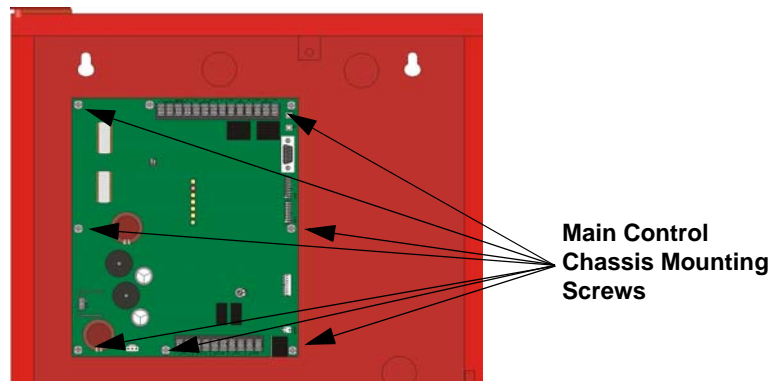

Figure 3-6 Main Control Board Mounting Location
4. Mount the main control board into the cabinet as shown in Figure 3-6.